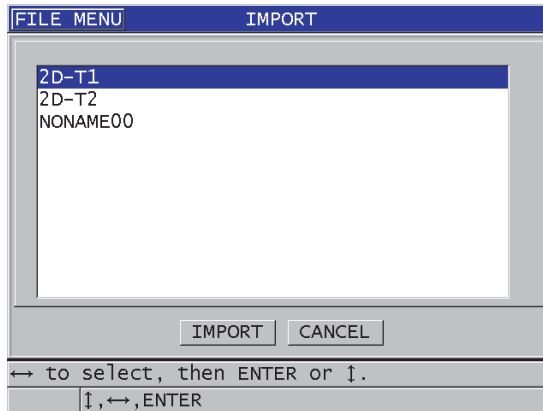

Figure 14-9 Example of the IMPORT screen
6. In the **IMPORT** screen (see Figure 14-9 on page 276):